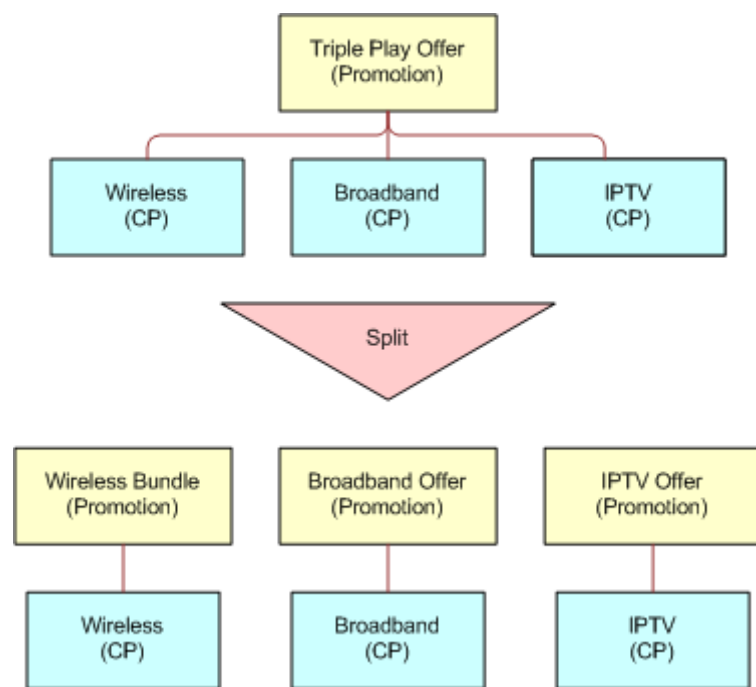

Figure 7. Split Promotion Sequence
Broadband Service is available in both target promotions. Apply Promotion attempts to fulfill, based on the split sequence. If Split Sequence is Wireless+BB (1) and IP+BB (2), then Broadband is assigned to Wireless+BB after the split. If Split Sequence is Wireless+BB (2) and IP+BB (1), then Broadband is assigned to IP+BB after the split. Apply Commitment is similar to Upgrade, see Defining Promotion Upgrade Components on page 174. Figure 7 illustrates this split sequence.